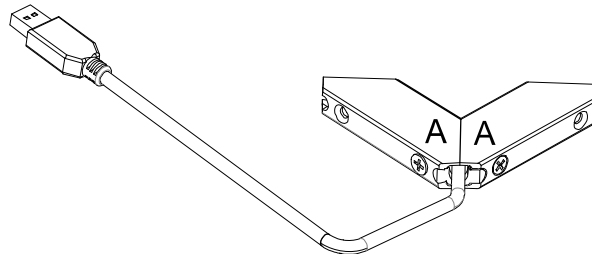

Fig. 5 Assembly Diagram of Corner A-A
4) The installed effect is shown in Fig. 5.